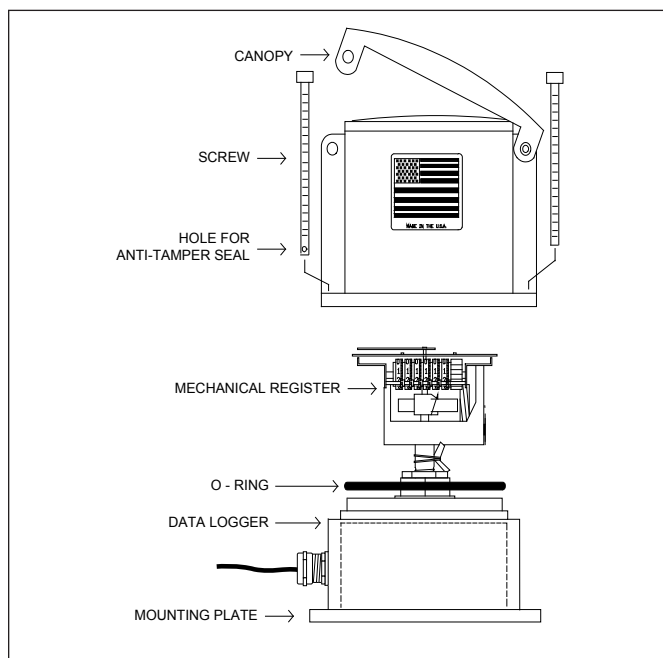

Figure 5. Canopy Installation
4. Lower the canopy carefully over the lubricated O-ring and seat it firmly onto the data logger housing. (Figure 5)